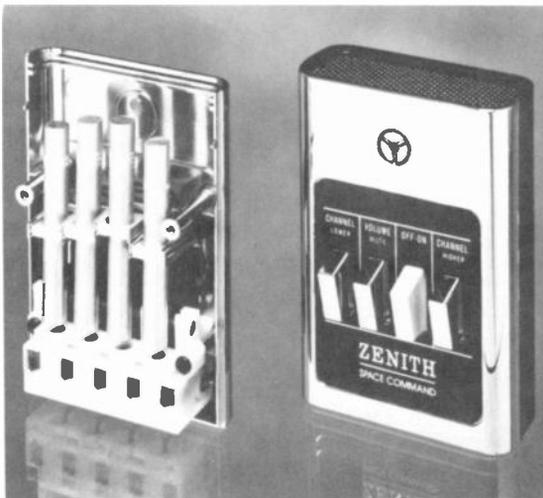

FIGURE 24-33 MECHANICAL TYPE OF TRANSMITTER UNIT FOR REMOTE CONTROL. (ZENITH RADIO CORP.)
**Transmitter unit.** This may be either an electronic oscillator or a mechanical source of vibrating sound waves. Figure 24-33 shows a mechanical sound unit, often called a "bonger." A separate metal rod, similar to a tuning fork, is used for each frequency. When the control button is pushed, a spring-loaded hammer strikes the rod and it radiates sound through an open grille at the top. No battery is needed for this transmitter, as its operation is entirely mechanical.